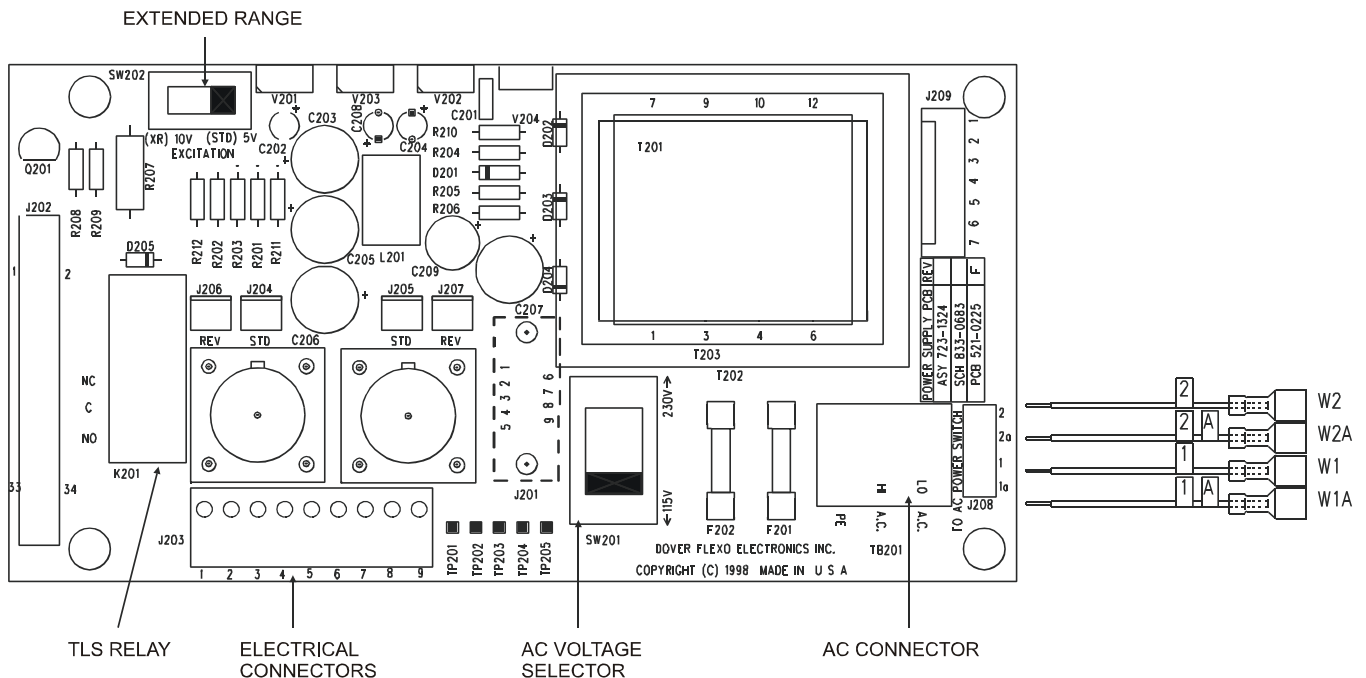

Figure 9 - TI14 POWER BOARD
3.5 POWER VOLTAGE SELECTION (See Figure 9, Power Board)
(See Page 3 for description, Page 9 Figure 9 for Power Board)
This unit can be set to provide two levels of excitation voltage. The "standard/extended range" selection switch (SW202) is located towards the back of the unit on the Power PCB (See Fig. 9). When the switch actuator is set toward the right of the board, the switch is in the normal or 5V excitation position. When the switch is set toward the left of the PCB, it is in the extended range or 10V position. The excitation voltage is marked on the silk screen in front of the switch. Slide the switch actuator to the position appropriate for the transducer(s) you are using.
Check the AC connections to the terminals on the Power PCB of the TI14. Check the fuses inside the unit (See Fig. 9, F201 and F202). There may also be a problem with the 5V power supply inside the unit.